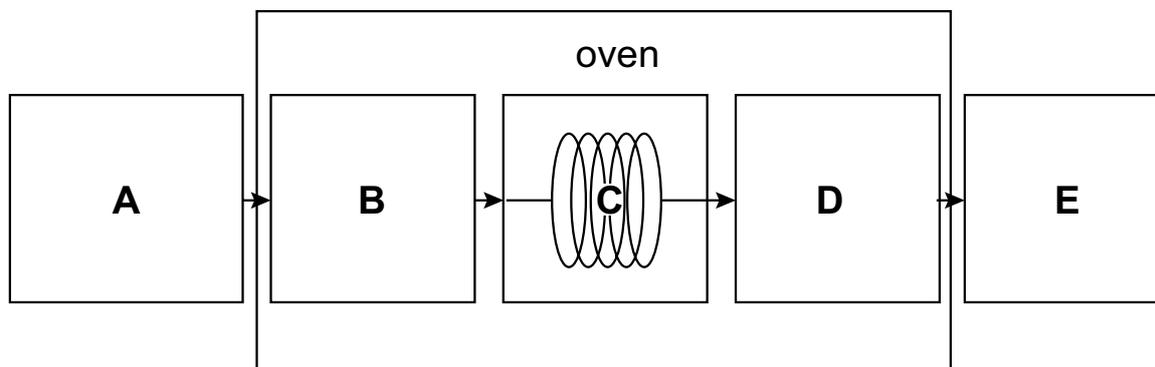

Fig. 2.1
Fig. 2.1 shows a block diagram of a gas chromatograph.
- (a) Identify the parts of the gas chromatograph shown in the block diagram in Fig. 2.1.